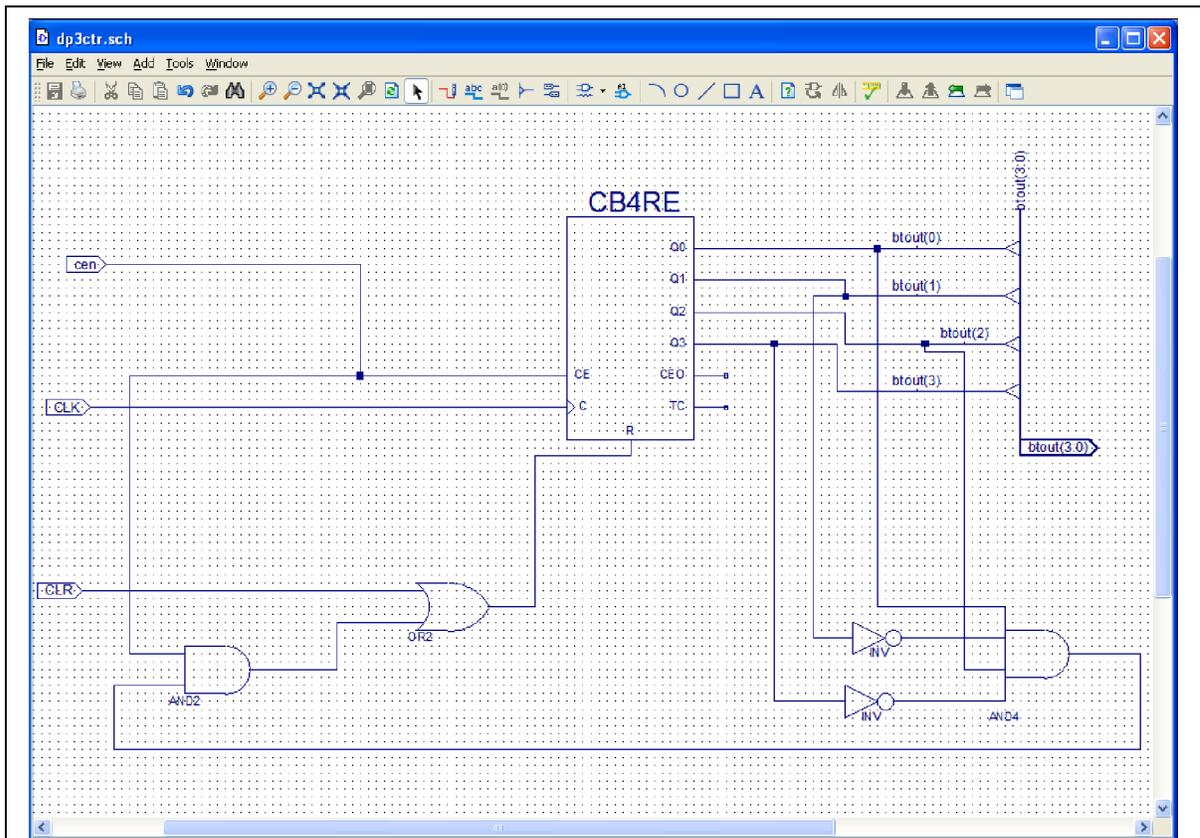

Figure 10: A 0 to 5 counter
One of the huge advantages of this form of design is that macros of arbitrary complexity can be constructed, stored and reused in future designs. Our collection of symbols contains many such macros. For our next design we will use one of them, CB4RE, a 4 Bit Cascadable Binary Counter with Clock Enable and Synchronous Clear, to construct a counter that will count from 0 to 5, reset and continue. We will then save it as a new macro to be used in our next experiment. The design in Figure 10 is an implementation of such a counter.
Create the schematic entry in Figure 10; check for errors and save the file. The device that we wish to build will have 3 inputs, ce for Clock Enable, clr for Clear and clk for Clock. Outputs will consist of a bus 4 bits wide, btout(3:0). Start a new project with schematic entry at the highest level. Enter your design in the usual fashion naming the inputs ce, clk and clr. To generate a bus for output draw a line using the wiring tool and give it a name btout(3:0). The program will change the line into a thicker, bus, line in correspondence with the name. Attach the bus taps as indicated and name them btout(0) to btout(3) using the “net name” tool under the “Add” menu. Be sure to click directly on the wire for the name to apply. You can use the “increase the name” feature to ease the amount of typing.